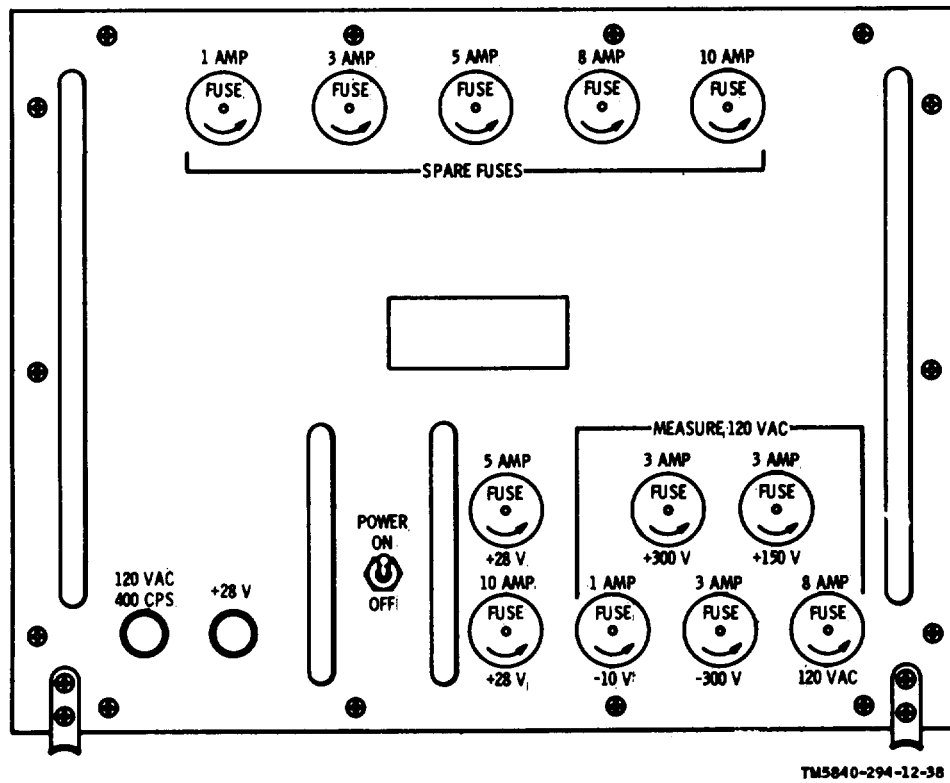

Figure 3-7. Power Supply PP-4338/TKQ-2, controls and indicators.
3-6. Power Supply PP-4338/TKQ-2, Controls and Indicators (fig. 3-7)
- a. Set the POWER switch (fig. 3-7) on the power supply to OFF.
Power supply (fig. 3-7): POWER switch	ON